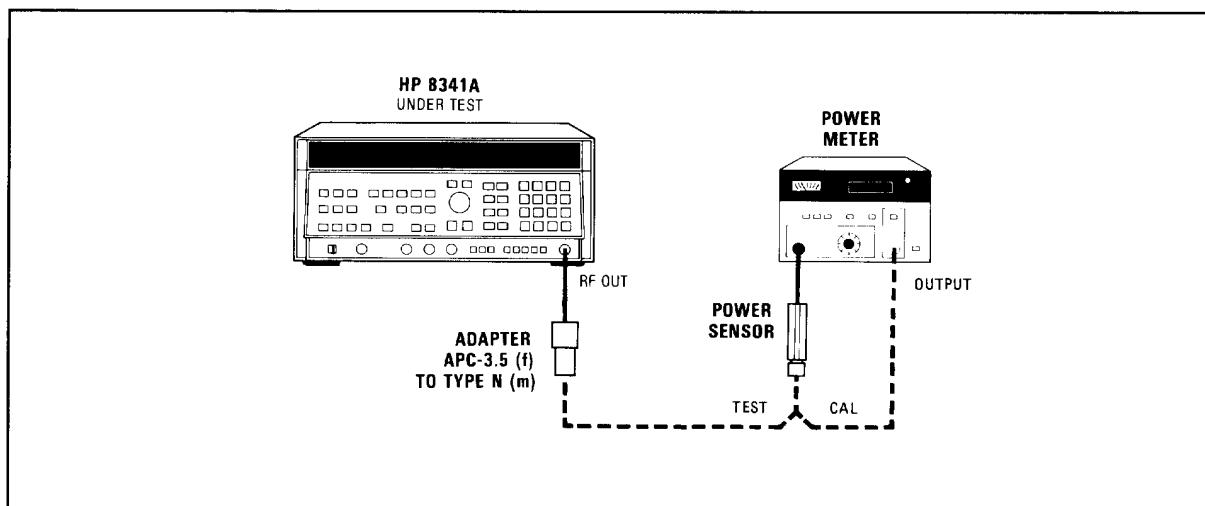

Figure 4-10. Power Sweep Test Setup
1. Connect equipment as shown in Figure 4-10. Connect the HP 8485A Power Sensor to the Power Meter. Allow at least 30 minutes warm up time. Set the Power Meter's calibration factor switch to include 1 GHz, then zero and calibrate the Power Meter before connecting the Power Sensor to the HP 8341A.